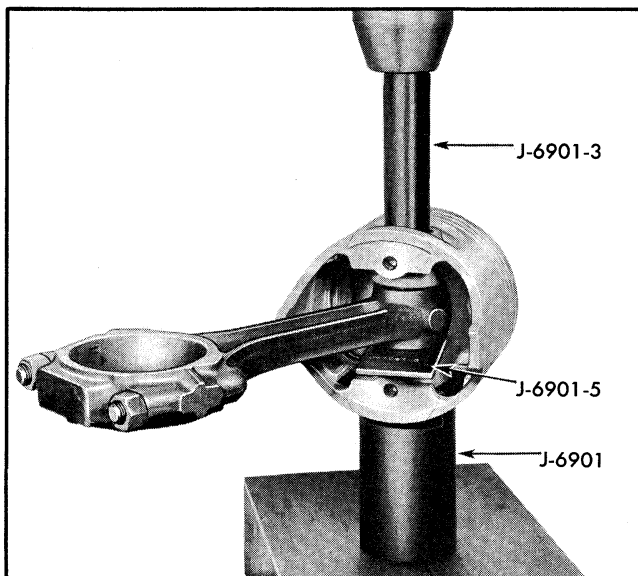

Fig. 6-140 Piston Positioned in Arbor Press for Removal of Pin
2. Using a suitable arbor press place the spring and plunger into the bore of the base support and position on an arbor press with the pilot plunger indexed in the bottom of piston pin bore. See Fig. 6-140 insert for correct base support and pilot plunger for the type pistons being serviced.
3. Place tool J-6901-5 between connecting rod and piston boss (Fig. 6-140).
4. Place tool J-6901-3 (Fig. 6-140) in piston pin and press piston pin down until pilot bottoms in tool J-6901.
8. Using tool J-6901-3 (Fig. 6-140) press pin out of piston and connecting rod.